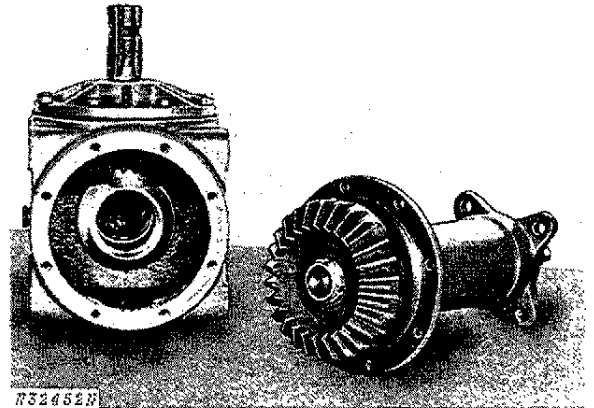

Fig. 18-Output Assembly Removed
1. Remove the eight bolts securing the output shaft assembly to the gear case to separate it from the gear case (Fig. 18).